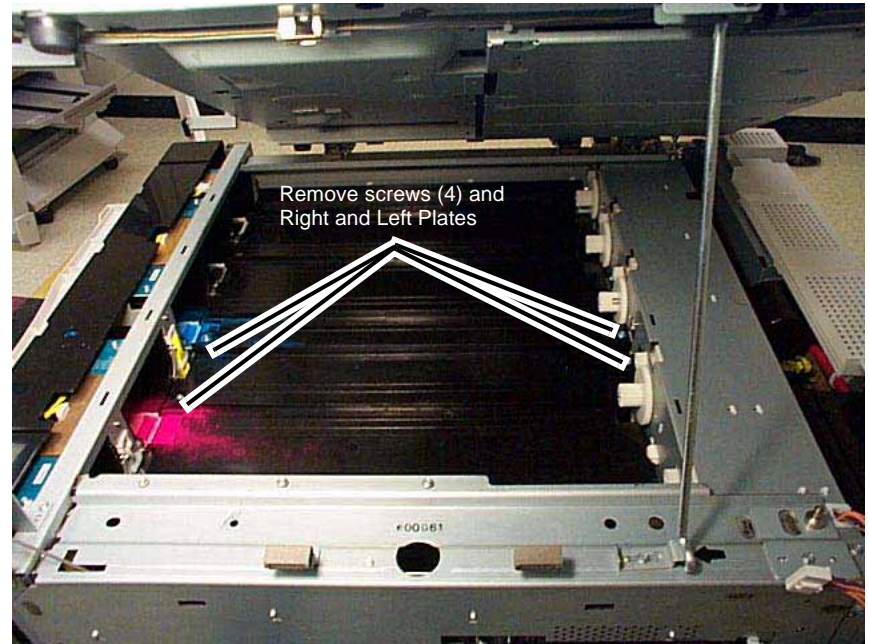

Figure 3 Removing the Left and Right Plates
6. Slide out Toner Cartridges (5).
7. Remove Left and Right Plates (Figure 3).